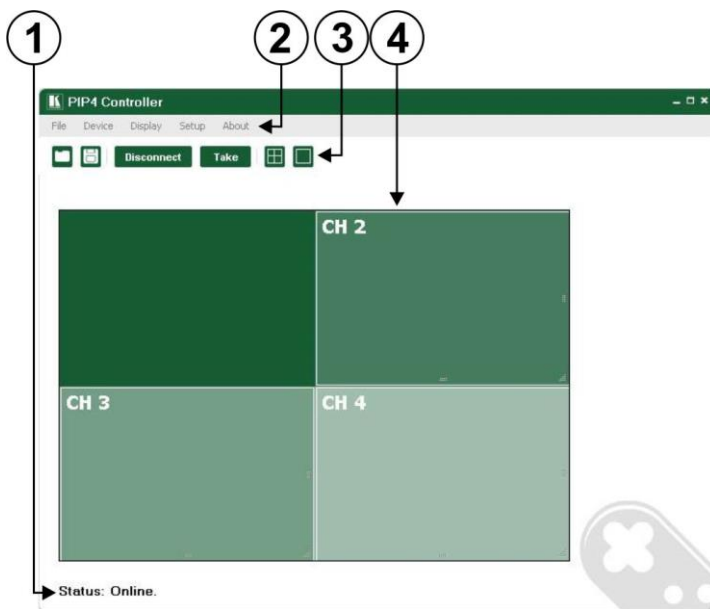

Figure 8: PIP-4 Controller Software Main Window
To install the Controller software, download the software and run the setup file. After installation, running the Controller software for the first time displays a window similar to that shown in Figure 8.
- If the connection is successful, the main window shown in Figure 8 appears.